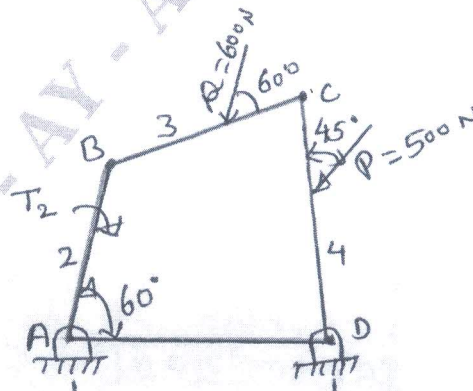

Fig. Q3 (b)
- b. A four bar mechanism under the action of two external forces is shown in Fig. Q3 (b). Find the required input torque on the link AB for static equilibrium. The dimensions of the links are AB = 50 mm, BC = 66 mm, CD = 55 mm, CE = 25 mm, CF = 30 mm, angle BAD =  $60^\circ$  and AD = 100 mm.